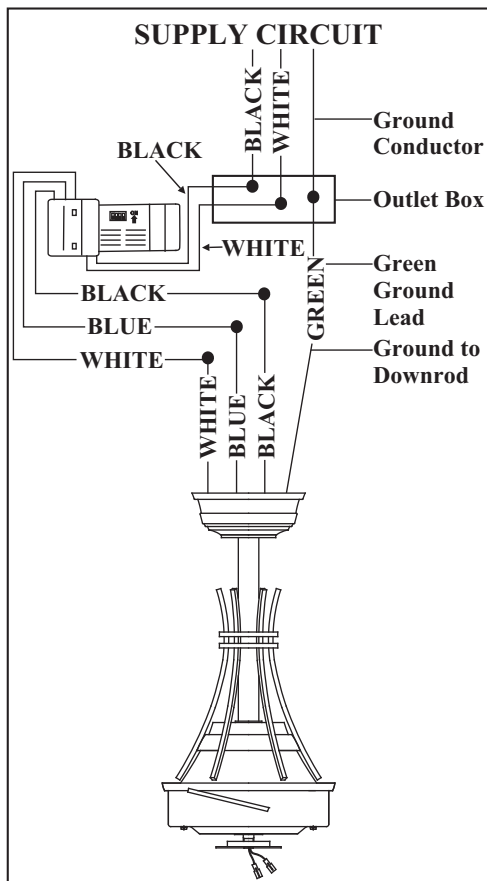

Figure 11
2. (Fig. 11) Motor to receiver electrical connections: Connect the black wire from the fan to black wire marked "TO MOTOR L". Connect the white wire from the fan to the white wire marked "TO MOTOR N" from the receiver. Connect the blue wire from the fan to the blue wire marked "For Light" from the receiver. Secure the wire connections with the plastic wire connecting nuts provided.
3. (Figure 11) Receiver to house supply wires electrical connections: Connect the black (hot) wire from the ceiling to the black wire marked "AC in L" from the receiver. Connect the white (neutral) wire from the ceiling to the white wire marked "AC in N" from the receiver. Secure the wire connections with the plastic wire connecting nuts provided.
4. (Figure 11) If your outlet box has a ground wire (green or bare copper) connect it to the fan ground wires; otherwise connect the hanging bracket ground wire to the mounting bracket. Secure the wire connection with a plastic nut provided. After connecting the wires spread them apart so that the green and white wires are on one side of the outlet box and black and blue wires are on the other side. Carefully tuck the wire connections up into the outlet box.